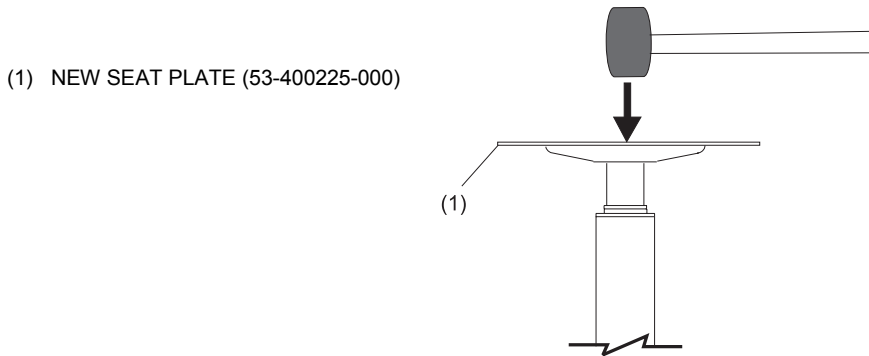

Figure 4
4. Use a rubber mallet to tap the top of the new seat plate assembly part # 53-400225-000 until it snaps into place into the column. *Figure 4*.